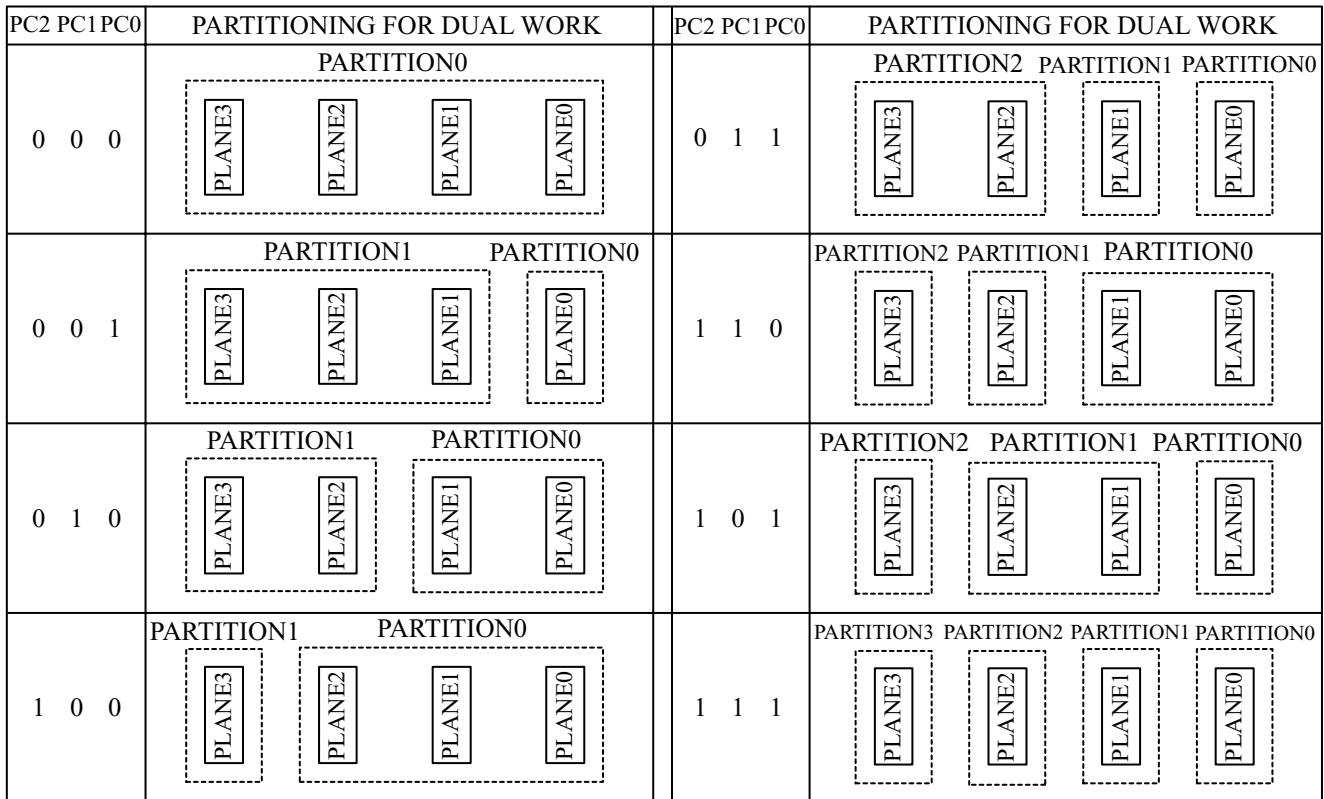

Figure 4. Partition Configuration
<p>PCR.15-11 = RESERVED FOR FUTURE ENHANCEMENTS (R)</p> <p>PCR.10-8 = PARTITION CONFIGURATION (PC2-0)</p> <p>000 = No partitioning. Dual Work is not allowed.</p> <p>001 = Plane1-3 are merged into one partition. (default in a bottom parameter device)</p> <p>010 = Plane 0-1 and Plane2-3 are merged into one partition respectively.</p> <p>100 = Plane 0-2 are merged into one partition. (default in a top parameter device)</p> <p>011 = Plane 2-3 are merged into one partition. There are three partitions in this configuration. Dual work operation is available between any two partitions.</p> <p>110 = Plane 0-1 are merged into one partition. There are three partitions in this configuration. Dual work operation is available between any two partitions.</p> <p>101 = Plane 1-2 are merged into one partition. There are three partitions in this configuration. Dual work operation is available between any two partitions.</p>	<p>111 = There are four partitions in this configuration. Each plane corresponds to each partition respectively. Dual work operation is available between any two partitions.</p> <p>PCR.7-0 = RESERVED FOR FUTURE ENHANCEMENTS (R)</p> <p>NOTES:</p> <p>After power-up or device reset, PCR10-8 (PC2-0) is set to "001" in a bottom parameter device and "100" in a top parameter device.</p> <p>See Figure 4 for the detail on partition configuration.</p> <p>PCR.15-11 and PCR.7-0 are reserved for future use and should be masked out when checking the partition configuration register.</p>